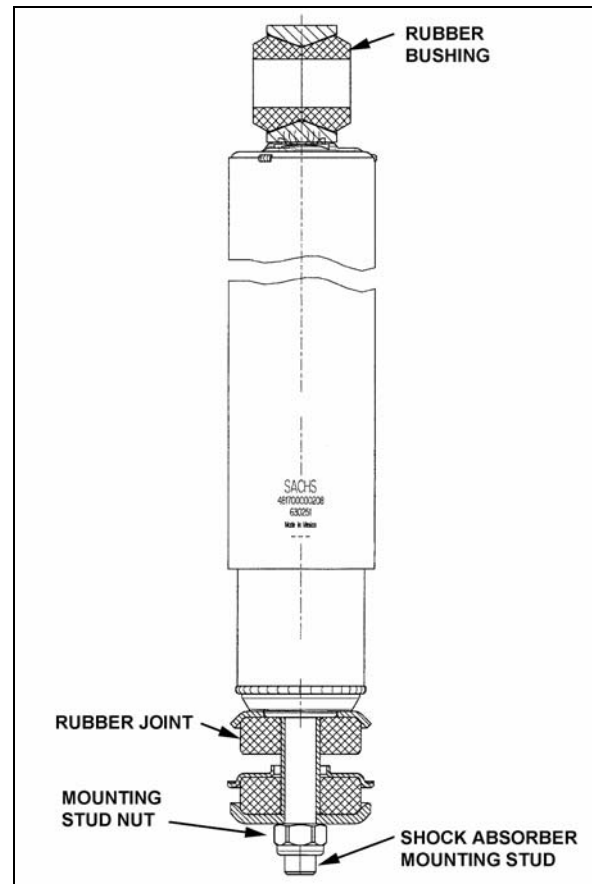

FIGURE 38: SHOCK ABSORBER
2. Remove the nut and washer from shock absorber mounting pin (upper side), taking care to identify the inner and outer washers to ease reinstallation. Refer to figure 38 for details.
3. Place the inner washer on shock absorber pin (Fig. 38).